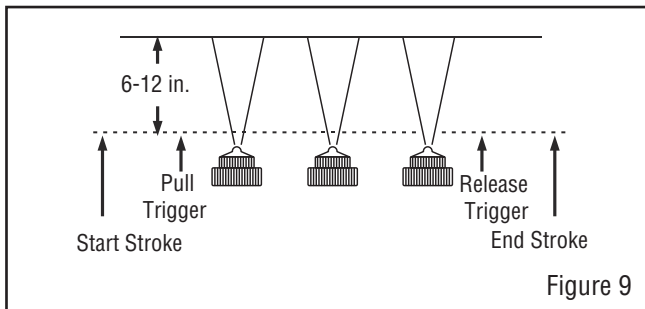

Figure 9
6. Trigger the gun properly. Start the gun moving at the beginning of the stroke before squeezing the trigger (J) and release the trigger (J) before stopping gun movement at the end of stroke. This procedure will feather/blend each stroke with the next without showing overlap or unevenness. (See Figure 9)